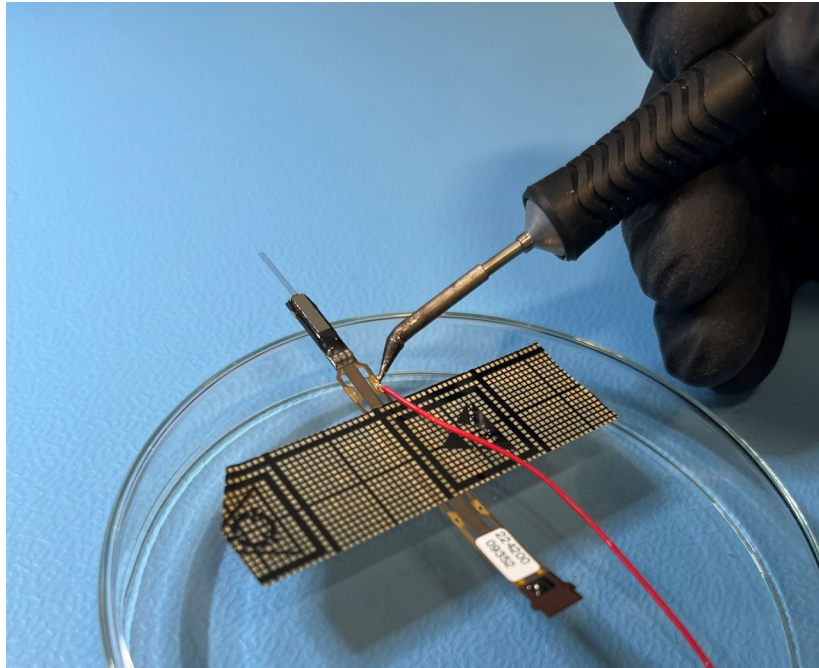

Figure 43: Placing the solder tip in the corner between wire and pad.
- Insert the wire through the hole in the solder pad. Place the solder iron at the corner between the pad and the GND/REF wire. (Figure 43)